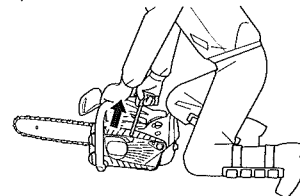

Fig. 15
5. Pull recoil starter briskly, taking care to keep the handle in your grasp and not allowing it to snap back. (Fig. 15)
7. Pull recoil starter briskly again in the aforementioned manner. (Fig. 15)